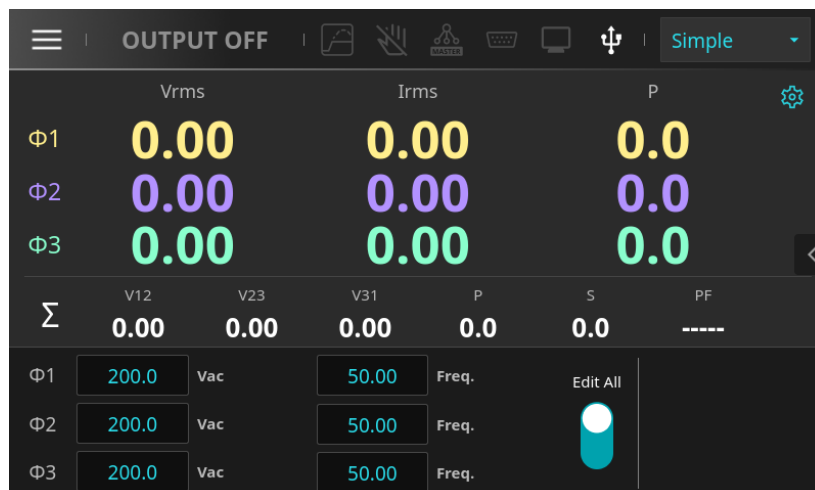

Figure 4-36: Three-Phase Mode Main Screen (Coupling = AC)
4. Tap the Home button  to return to the main screen. As shown in Figure 4-36, the output mode in three-phase mode has now been changed to AC.